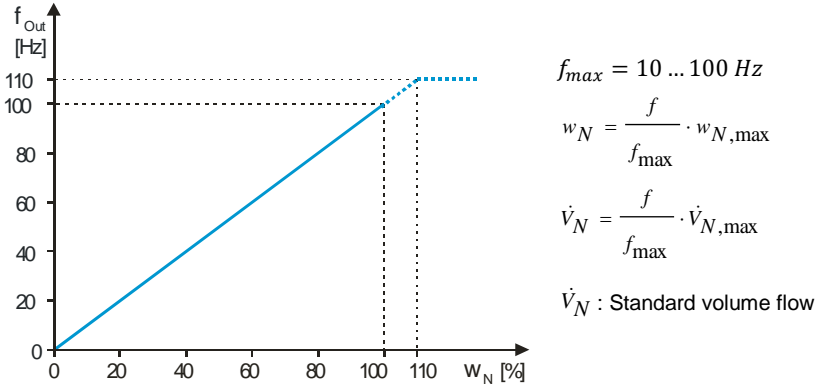

Figure 5-3 Example for $f_{max} = 100 \text{ Hz}$
- In standard configuration the sensor maps the flow velocity w_N proportional to a frequency range $[0 \dots f_{max}]$, with selectable maximum frequency f_{max} (see Figure 5-3).